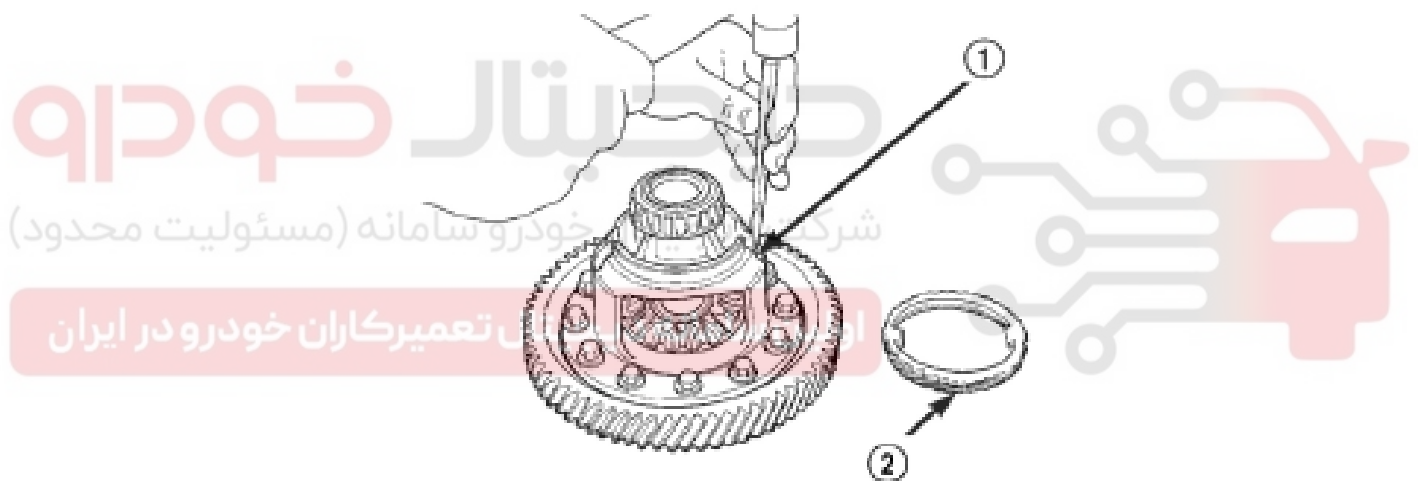

Figure 3-92 Fix stopper
(4) Profile and punch the casing to fix bumper pin (Figure 3-92).